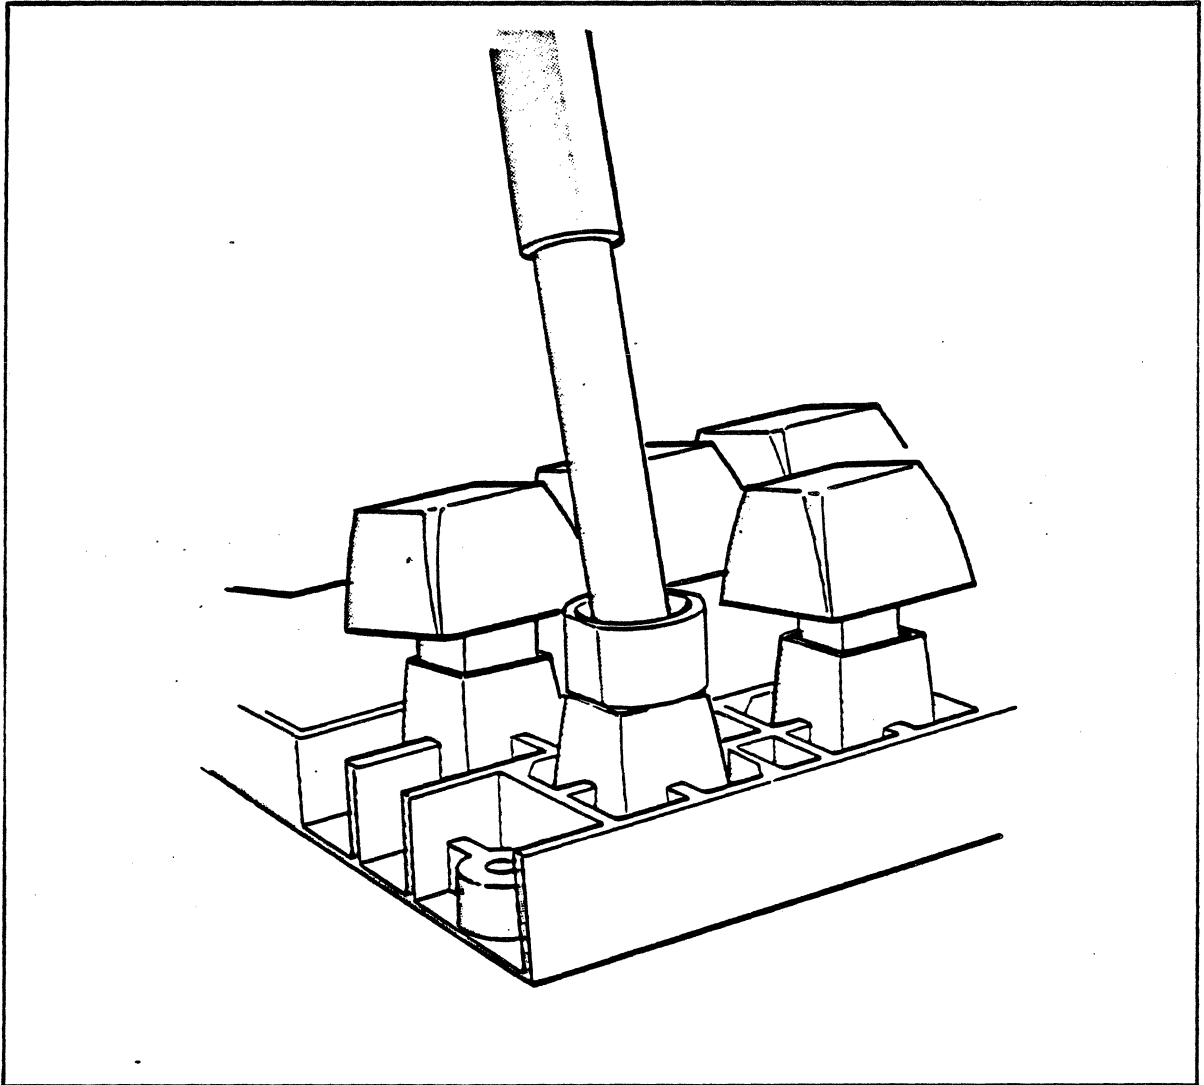

Figure 7-5. Placing the Insertion Tool Into the Guide
10. Place the insertion tool into the guide matching keyway slot and key. Press the tool firmly straight down until the contacts are seated and the tool clicks (see Figure 7-5).